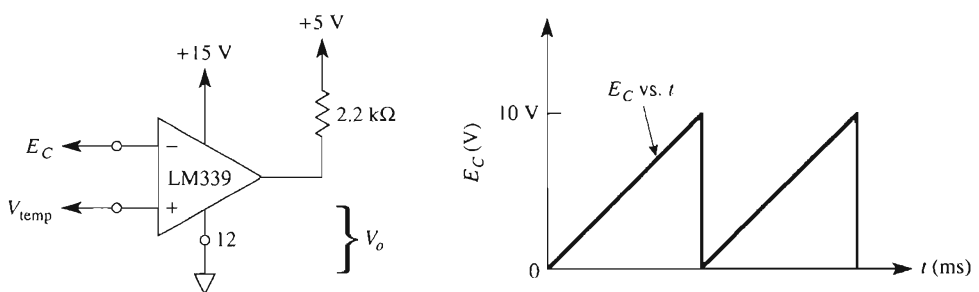

FIGURE P2-14
- 2-14. The frequency of carrier wave E_c is constant at 50 Hz in Fig. P2-14. If $V_{\text{temp}} = 5\text{ V}$, (a) calculate high time T_H ; (b) plot V_o vs. time.